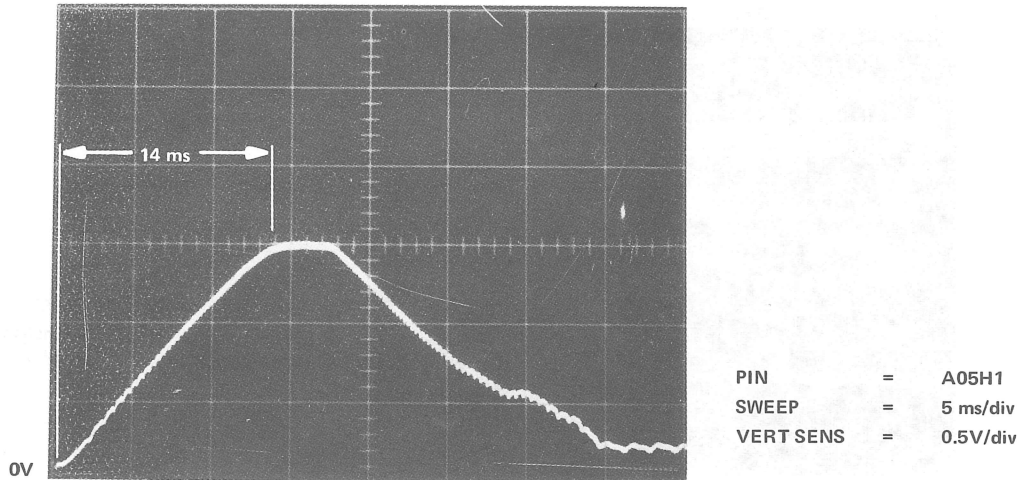

Figure 5-14 Acceleration Waveform
- Observe A05H1 (VELOCITY) for a velocity profile as illustrated in Figure 5-14.